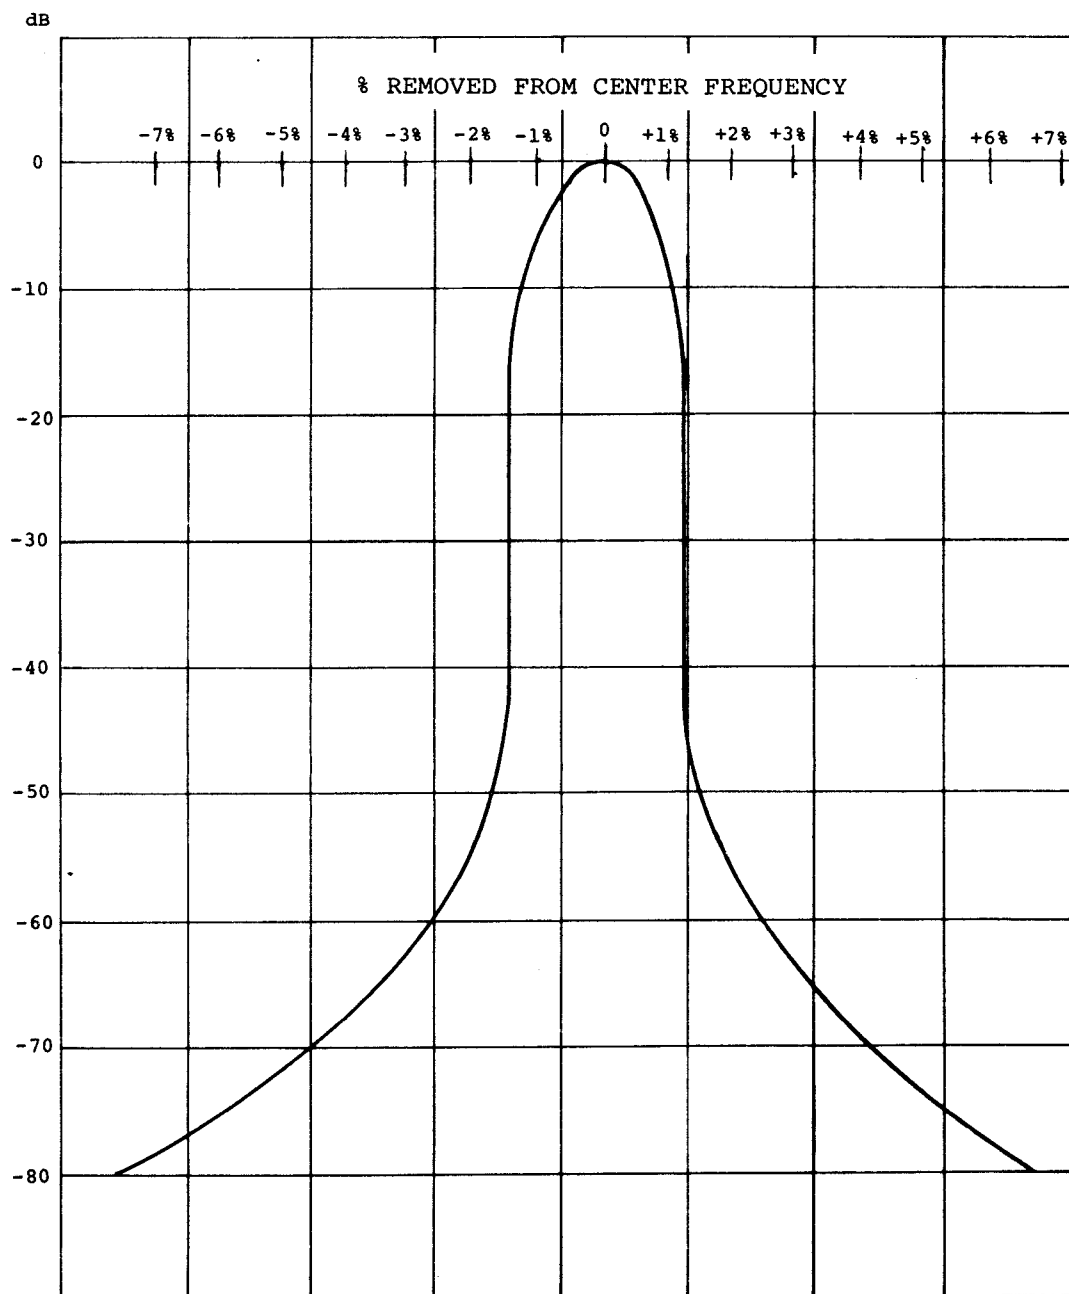

Figure 3-5 Antenna Coupler Group AN/SRA-60 (V)
q. SELECTIVITY. - See Figure 3-5.